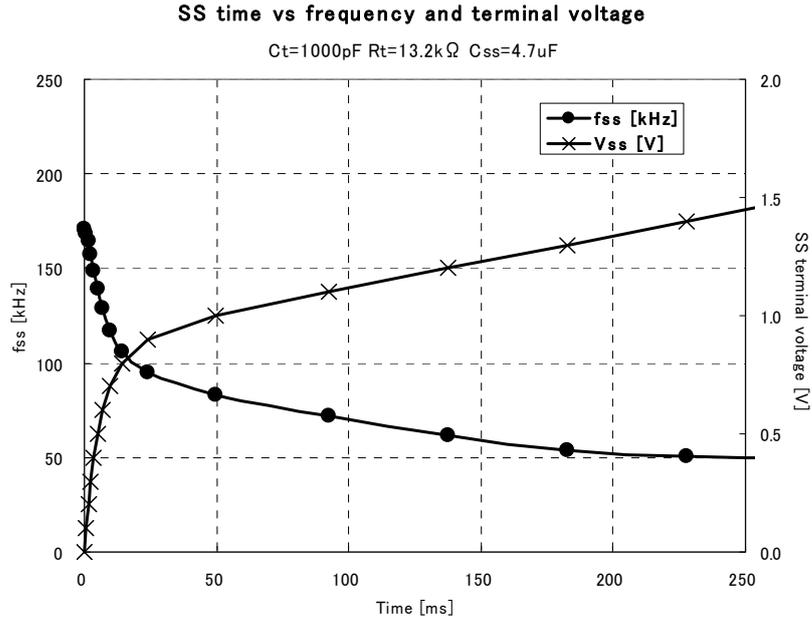

Fig.13. fss characteristics
Tentative value of soft start timing capacitor **C_{ss}**(init) is obtained from approximate formula(5). **t_{ss}** is the time period of which the frequency stabilizes at **f_{min}** after **V_{C_{ss}}** reaches around 0.8V. Correct value of **t_{ss}**, soft start time period, is obtained from formula(6) using actual value of **C_{ss}**. Characteristics of **C_{ss}** voltage vs operating frequency at **C_{ss}** = 4.7uF (**t_{ss}** = 200ms) is shown in Fig.13.